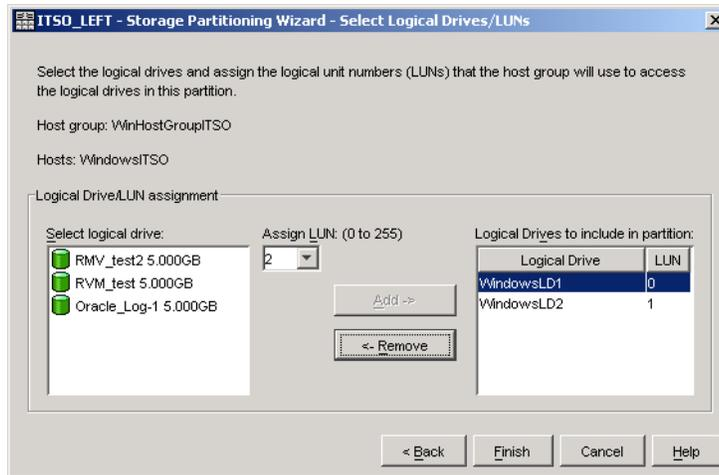

Figure 5-68 Storage Partitioning wizard: Selecting logical drives/LUNs
- The next window allows you to select the logical drives that are going to be mapped to the host or the group. You also must specify a LUN for each logical drive. In our example, shown in Figure 5-68, we selected WindowsLD1 and WindowsLD2. We assigned the LUNs 0 and 1, respectively, to these two logical drives.